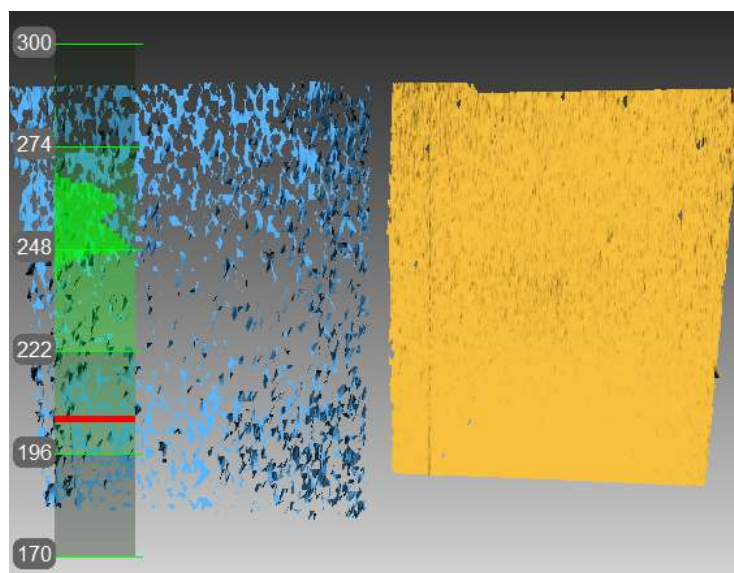

Figure 160: Artec Spider correction results.
In some cases, owing to careless handling or transportation (jolts, accidental drops or some other reason), the scanner may fail to capture surfaces properly. The scanned surfaces may only be partially reconstructed or may contain holes (for example, the results of bad reconstruction are noticeable on the blue surface in Figure 160). You can resolve these issues by correcting or calibrating the scanner.
9. Repeat Step 8 three more times. Once you finish, the calculation will start. A yellow plane that corresponds to the surface you captured using the corrected calibration settings will then appear in the *3D View* window (see Figure 160).